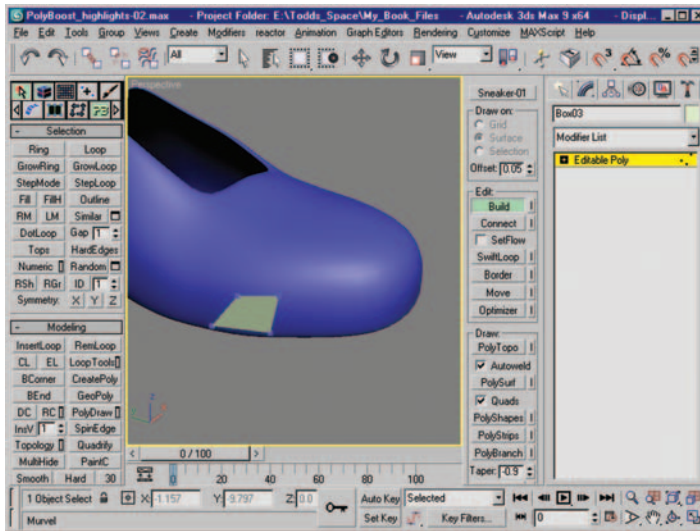

Figure 12.23 *Polygon created with Build and the Ctrl+Shift keys held down.*
- With Ctrl+Shift keys held down, click four times (at each corner of the desired new polygon shape) to create a new polygon on the surface of the sneaker mesh. Figure 12.23 shows the new polygon drawn on the surface.